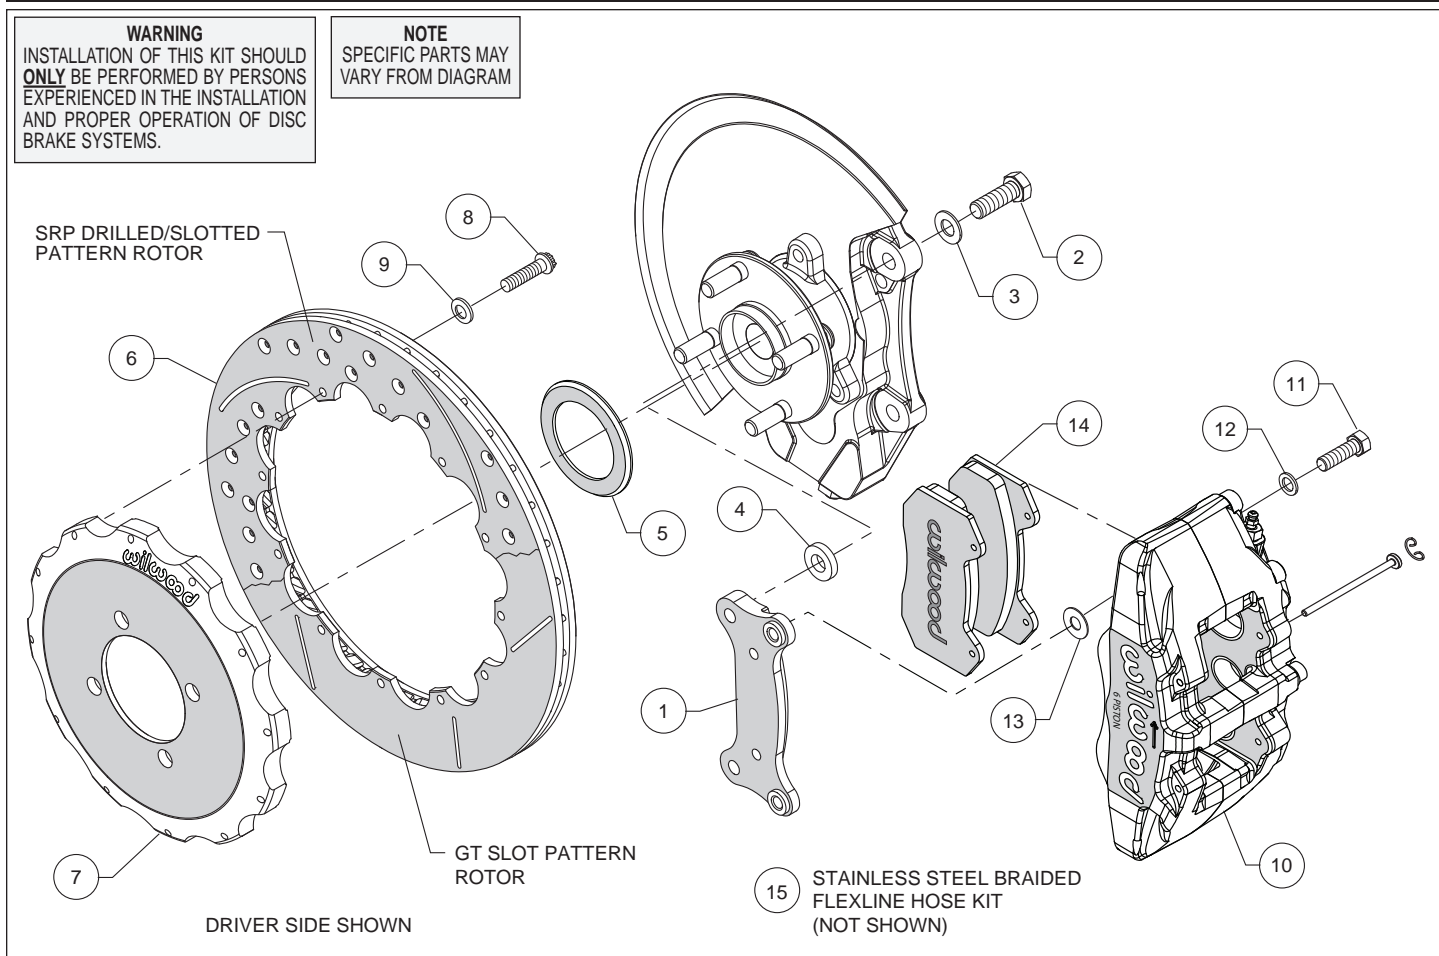
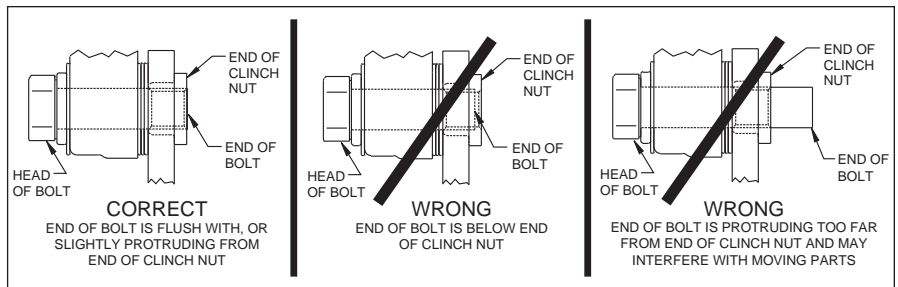

Figure 1. Typical Installation Configuration
Figure 3. Clinch Nut Engagement Diagram
**Assembly Instructions** (numbers in parenthesis refer to the parts list and Figure 1 on the preceding pages): **CAUTION:** All mounting bolts must fully engage clinch nuts. Be sure to check that all bolts are either flush or protruding through flanged side of clinch nut after shimming, Figure 3.
- Orient the caliper mount bracket (1) as shown in Figure 1 and Photo 1, and install using bolts (2) and washers (3). Place a spacer (4) on each bolt between the bracket and upright mounting boss, Figure 1 and Photo 2. Ensure that the flanged heads of the clinch nuts in the bracket are facing outboard, Photo 1. Temporarily tighten the mounting bolts. **NOTE:** The bracket must fit squarely against the mount bosses on the upright. Inspect for interference from casting irregularities, machining ridges, burrs, etc. Remove bolts one at a time, apply red *Loctite*® 271 to the threads and torque to 60 ft-lb.
- Orient the rotor (6) and the hat (7) as shown in Figure 1 and Photo 3. Attach rotor to hat using bolts (8) and washers (9). Using an alternating sequence, apply red *Loctite*® 271 to the threads, and torque to **155 in-lbs**.
- **NOTE:** Please reference the caution statement at the beginning of the assembly instructions. This kit contains distinct right and left hand calipers that must be mounted in a specific direction, as described below. Mount the caliper (10) onto the caliper mounting bracket (1) using bolts (11) and washers (12), as shown in Figure 1. Initially place one .035" thick shim (13) on each bolt between the caliper and the bracket, Photo 6. Ensure that the caliper is mounted so the largest pistons are at the rotor exit end of the caliper, in relation to the direction of rotor rotation. Temporarily tighten the mounting bolts and view the rotor (6) through the top opening of the caliper. The rotor should be centered in the caliper, Photo 7. If not, adjust by adding or subtracting shims between the bracket and the caliper. Always use the same amount of shims on each of the two mounting bolts. **NOTE:** The end of each bolt must be flush with or slightly protruding from the head of the clinch nut, as shown in Figure 3. If necessary place spare shims between washer (12) and caliper mounting ear to achieve the proper clinch nut engagement. Once the caliper alignment and clinch nut engagement are correct, remove the mounting bolts, shims and caliper.
- Remove the two pad retaining pins from the caliper (10) by carefully popping out the pin retaining clips and sliding out the pins. Insert the brake pads (14) into the caliper from the bottom, Figure 1 and Photo 8, with the friction material facing the rotor. Secure